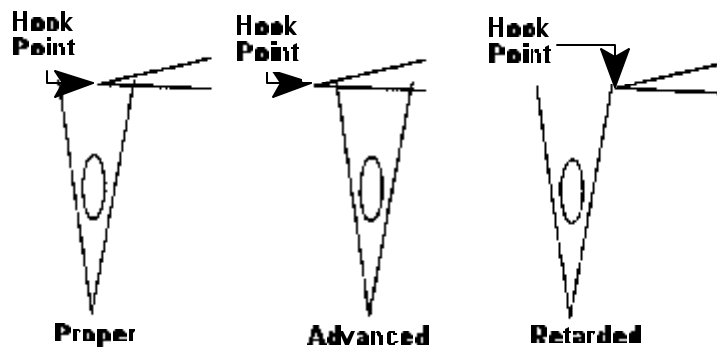

Figure 8
44. Adjust so tip of hook point is behind and in **middle of needle**. See Figure 8.